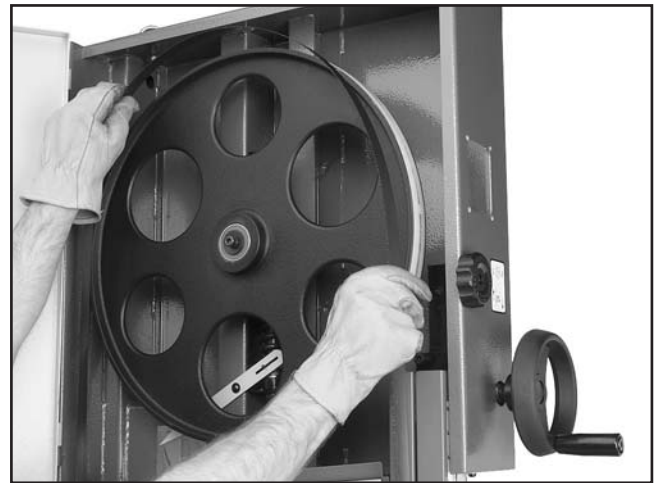

Figure 46. Typical example of placing blade on the wheels.
2. Slip the blade through the guides, and mount it on the upper and lower wheels (**Figure 46**).